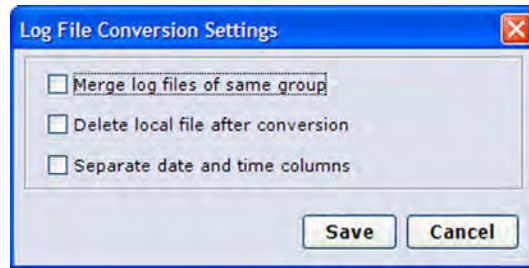

Figure 52 Log File Conversion Settings
5. To set your conversion options, select **Settings**. The **Log File Conversion Settings** window shown in Figure 52 on page 96 is displayed.